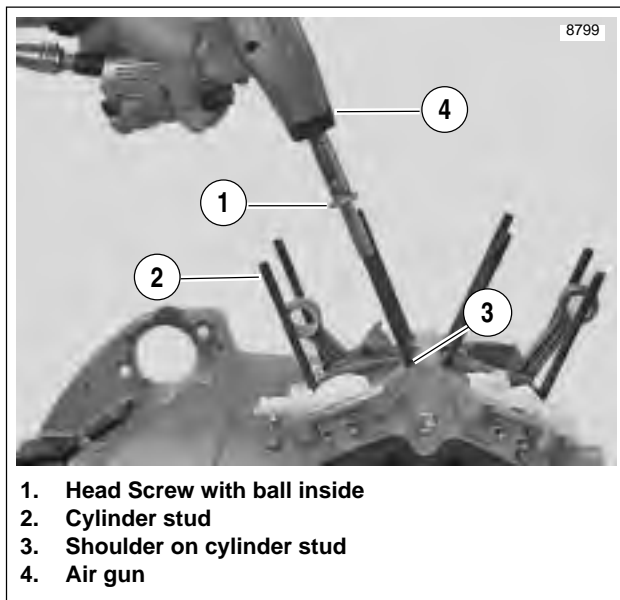

Figure 3-155. Cylinder Studs
11. See Figure 3-155. Install cylinder studs.